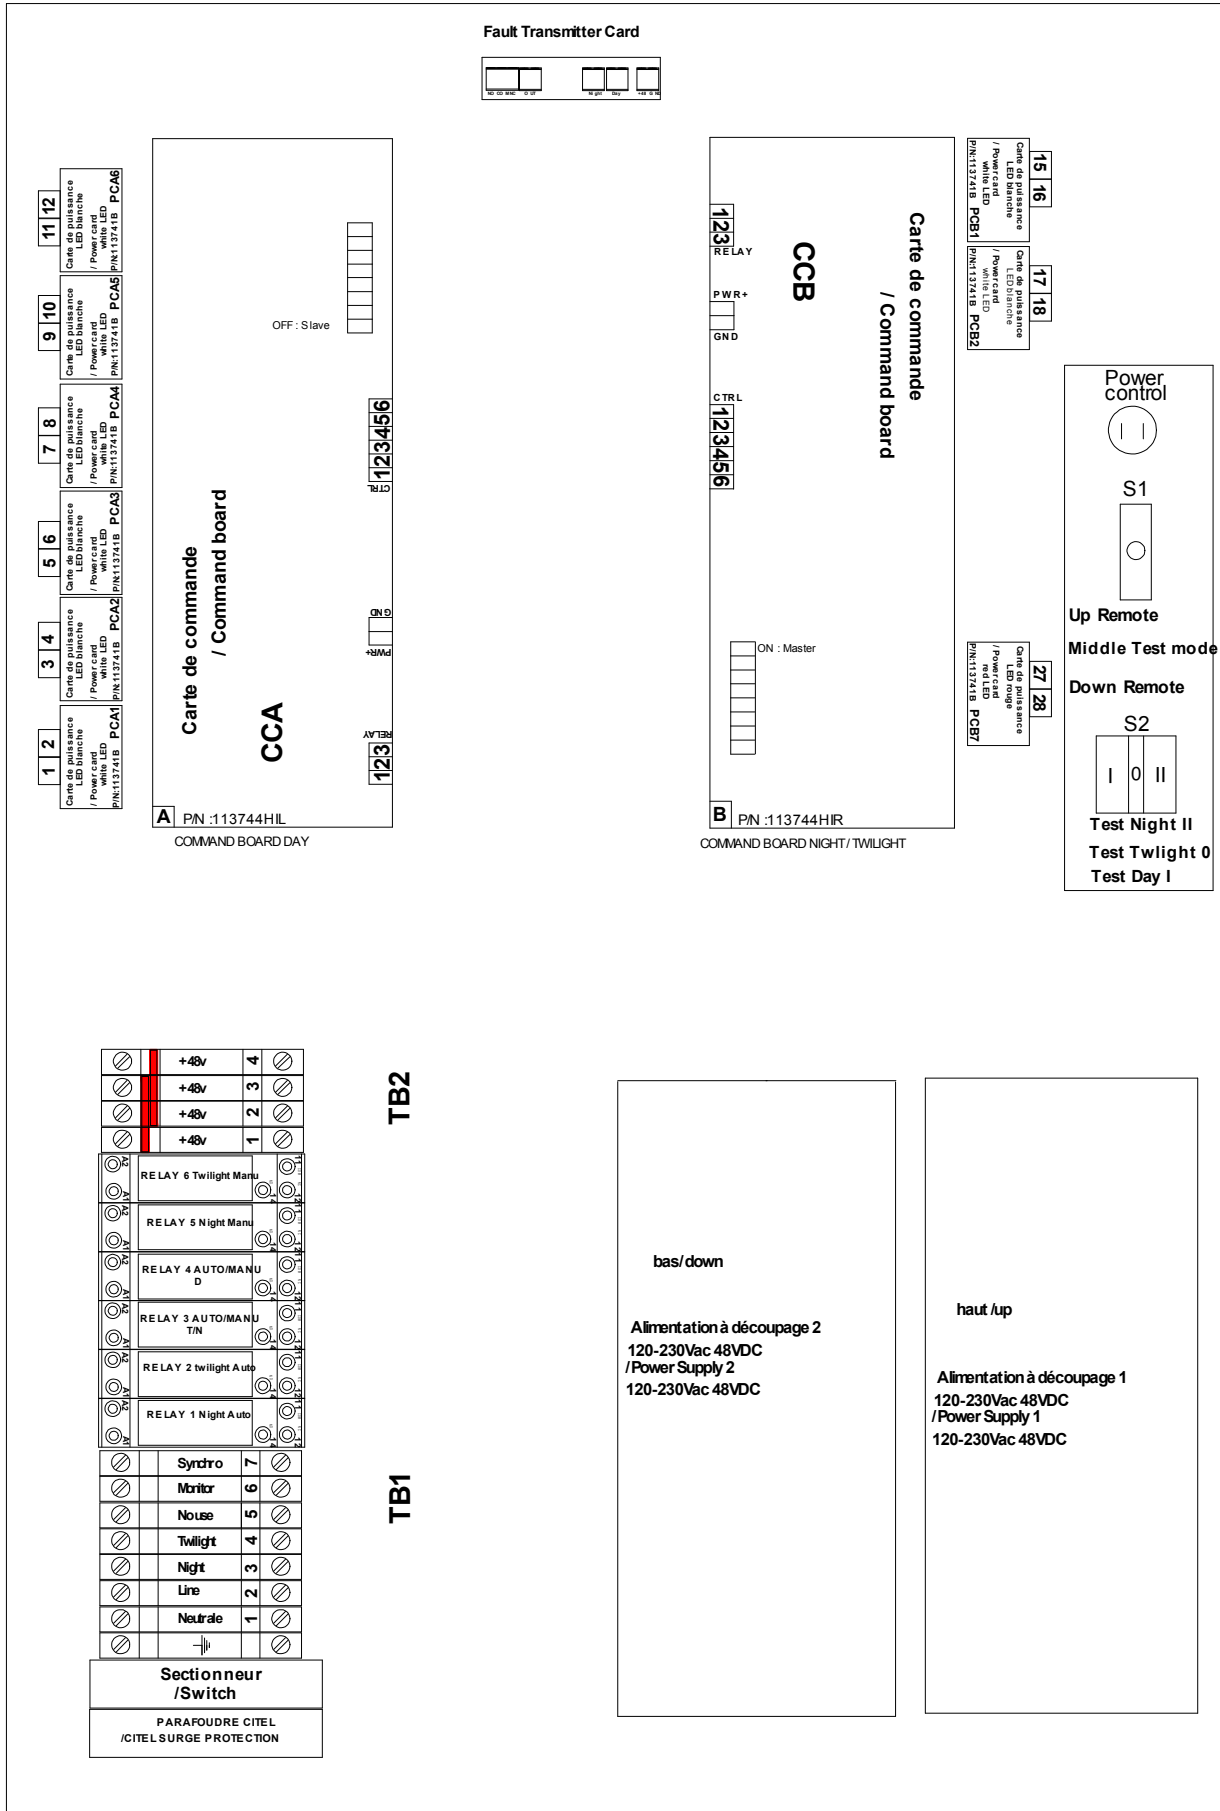

Figure 1-1. Power supply component locations P/N:113782RW-8E
The OBSTAFLASH HI Lighting System is led high intensity systems manufactured to comply with ICAO annex 14 chapter 6. Each system consists of 1 beacon covering 120° in azimuth, an associated power supply with integrated controls, an ambient light sensor (photocells) and the interconnecting cable. System components are shown in Figures 1-1 to 1-8 pages 5 to 12.
The S2 test button in figure 1-1 page 5 allows 3 positions:
- On the command card: 12 luminous indicators see figure 1-1